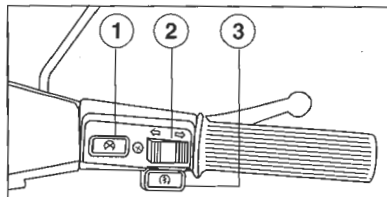

Fig. 21
**Right hand side of the handlebar (fig. 21).**